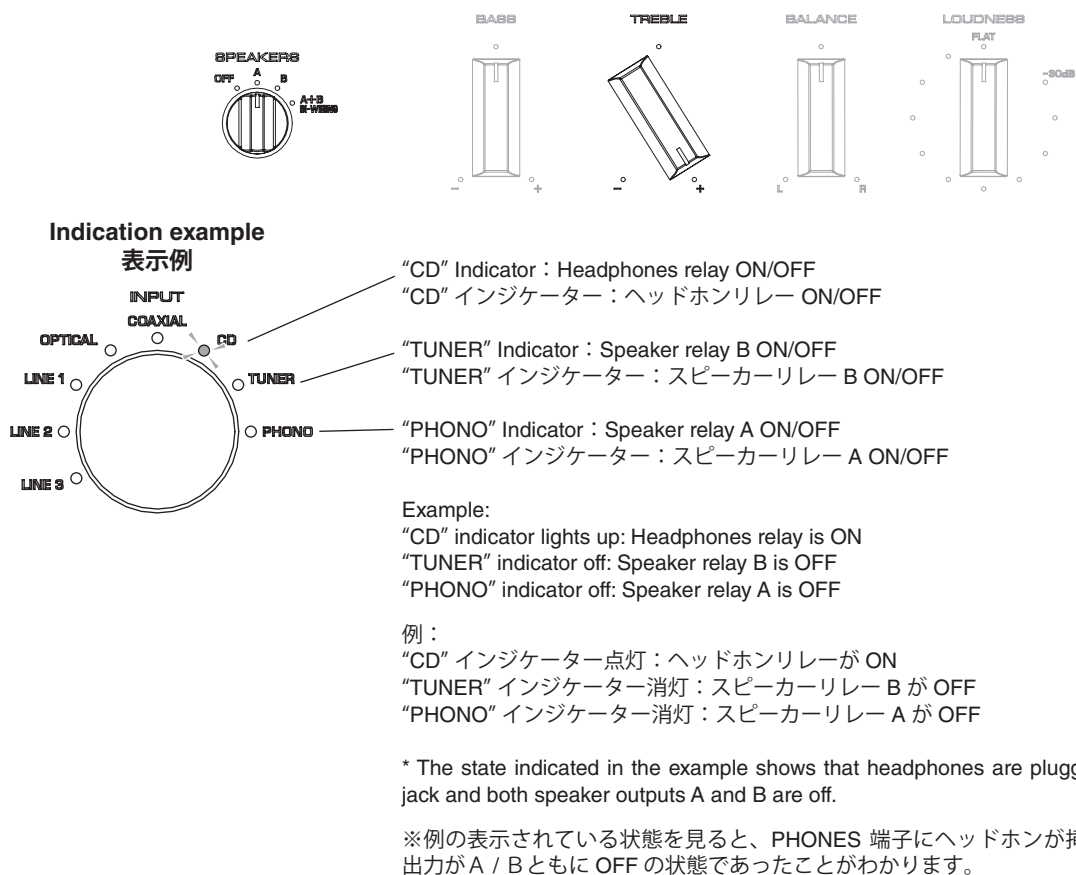

Fig. 13
Turn the "TREBLE" knob to "+" and the "SPEAKERS" knob to "A". (Fig. 13)
The ON/OFF states of speaker relays A/B (RY101 and RY102 on MAIN (1) P.C.B.) and the headphones relay (RY103 on MAIN (1) P.C.B.) when a protection function is activated are indicated using the "INPUT" indicators. (Fig. 13)
つまみを "A" の位置にします。(Fig. 13)
"INPUT" インジケーターを使って表示されます。(Fig. 13)